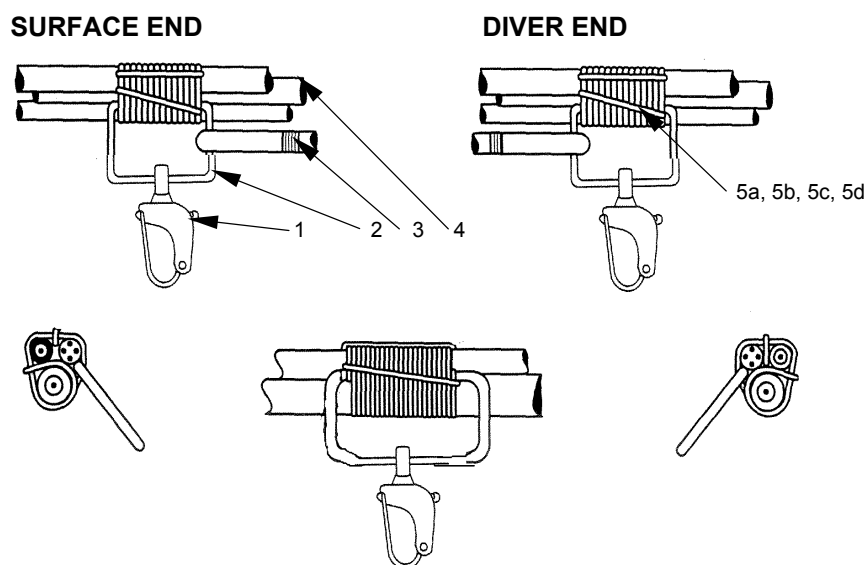

Figure 3-9. Seizing D-Ring to Umbilical Assembly
- e. Place D-ring at the reference mark. See Figure 3-9.
- f. Using 3/16" nylon cord (Table 3-8, item -5a), seize the D-ring to the umbilical assembly as follows. See Figure 3-9.